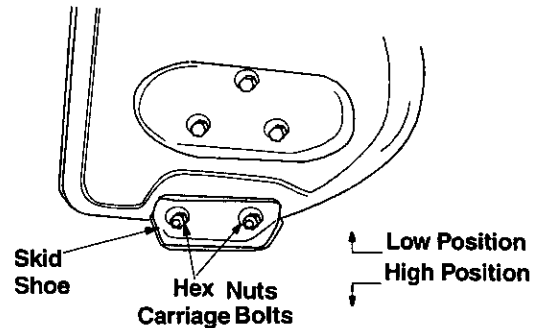

Figure 12
- For close snow removal on a smooth surface, raise skid shoes higher on the auger housing. See Figure 12.
- Use a middle or lower position when the area to be cleared is uneven. See Figure 12.
- Adjust skid shoes by loosening the four hex nuts and carriage bolts as shown in Figure 12. Move skid shoes to desired position.